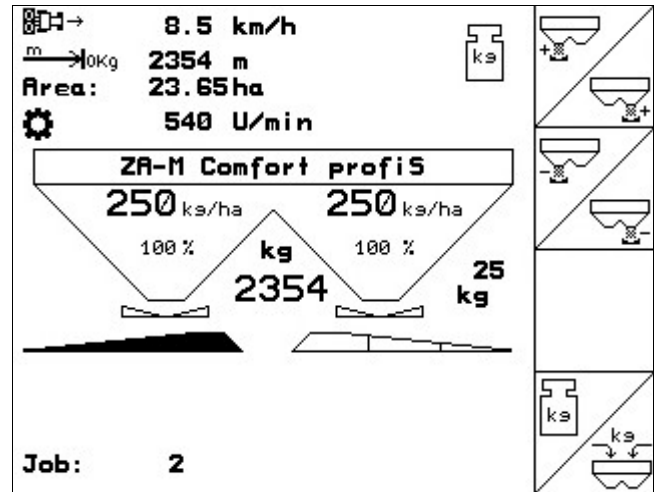

Fig. 6
- During operation the **Operational Menu** (Fig. 6) shows all necessary spreading data. From here the spreader is actuated during spreading operation.